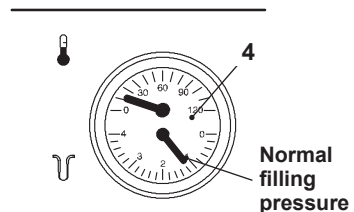

Fig. 2.2
Ensure that the c.h. circuit is regularly filled with water (even if the boiler is only used for d.h.w. supply) checking that the pressure indicated on pressure gauge 4 is not lower than that shown in Fig. 2.2.
If the pressure reading on the pressure gauge is below that shown in Fig. 2.2, then the system will require topping up. A filling loop is normally provided by the Installer for this purpose.
- Open the valves of the filling loop and watch the gauge until it reaches normal filling pressure as shown in Fig. 2.2.
You should check that the pressure on the temperature and pressure gauge (Fig. 2.2 on page 10) is not below the correct setting. If required, top up the system correctly, as described in the section "Refilling procedure" to page 10.